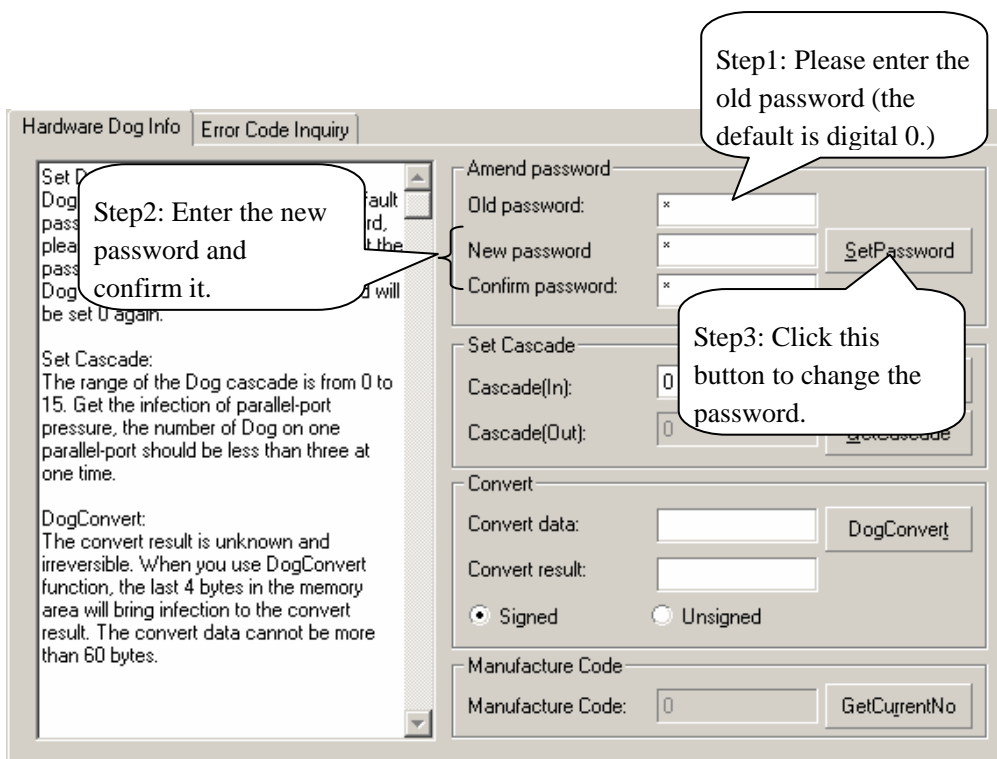

Figure 3-5
A. Follow the steps 1, 2, 3 described on the figure 3-5 to change the password.